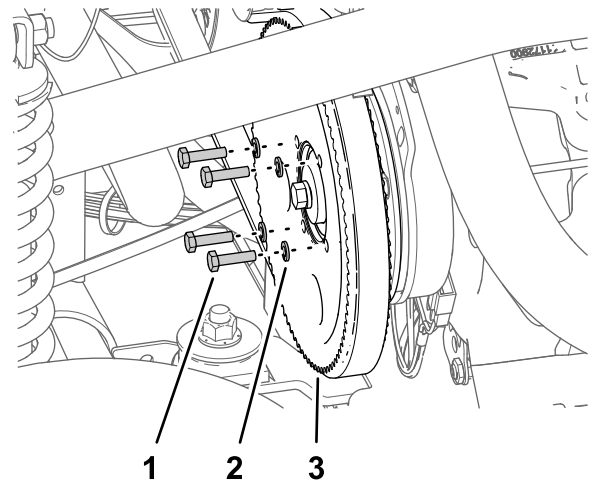

Figure 179
- Remove the 4 bolts (1/4 x 1 inch) and 4 lock washer (1/4 inch) that secure the pulley to the sprayer pump (Figure 179).